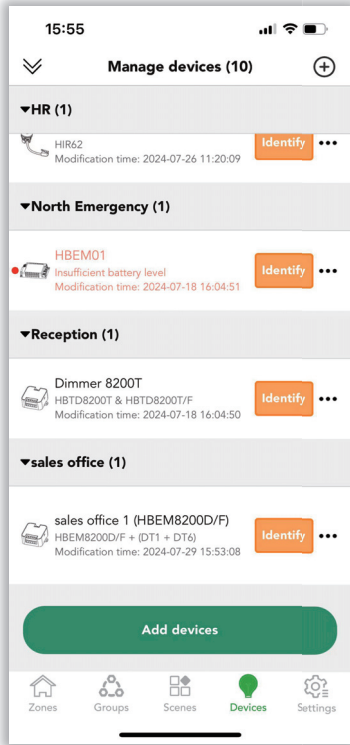
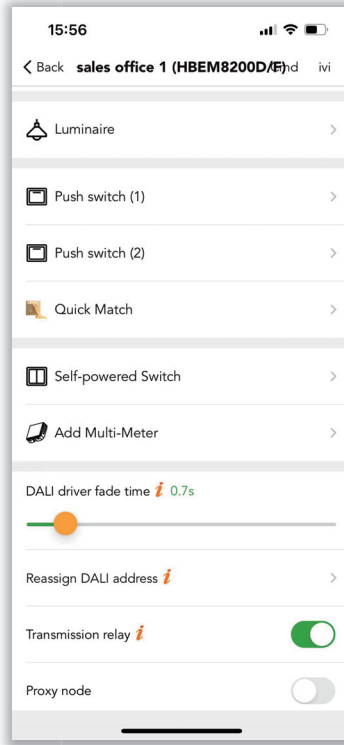

Figure 7.1 Devices-1
Figure 7.2.1 Parameters settings
In the Devices Setting, Koolmesh app lists out all the devices by zone under this network; users can modify all the parameters for every device. Users can click “Identify” to check if they connect the right luminaire or click the luminaire which they would like to set, like “sales office 1(HBEM8200D)”. When users would like to change the parameters then users need to click “sales office 1(HBEM8200D)” (see figure 7.1), app will link to all the parameters automatically (see figure 7.2.1).
**Modification time:** when user has initiated or modified any parameter of the device, it will show “Modification time: .....” under each device in the Device list. (see figure 7.1)